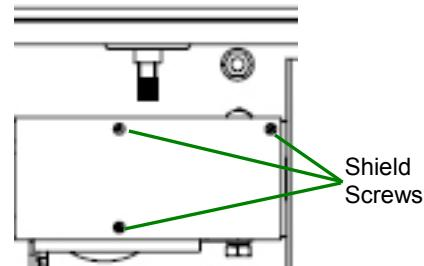

Figure 6-6: Lamp Shield Mounting Screws
1. Remove the three screws on the shield covering the lamp (Figure 6-6).